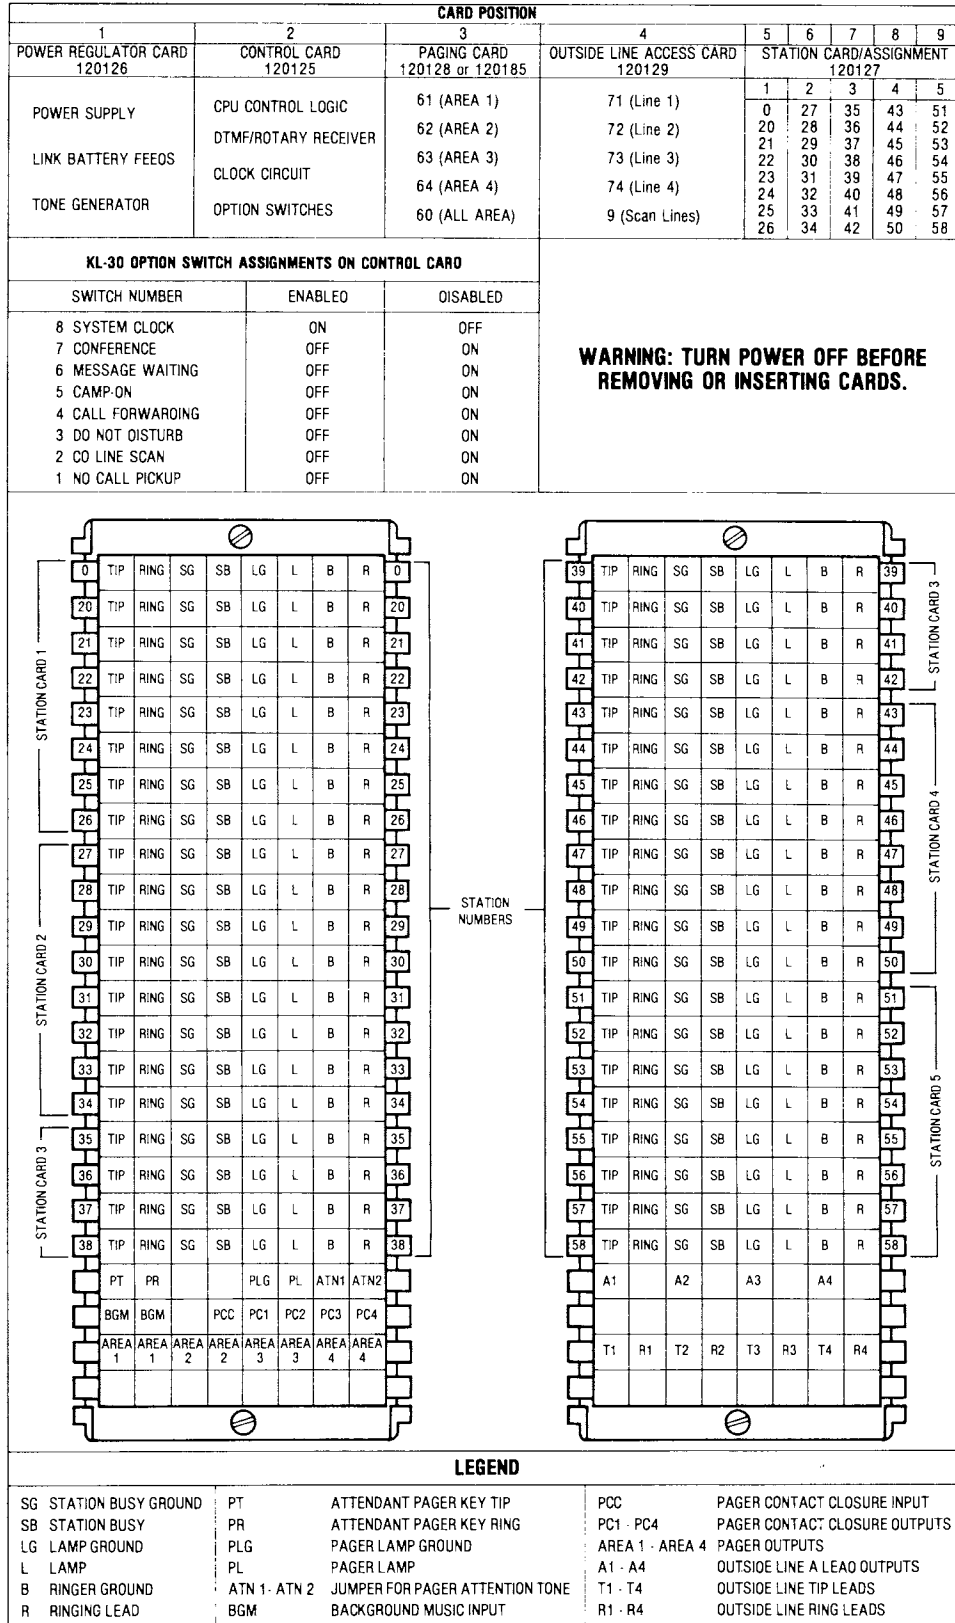

Fig. 4 — Option Switch, Function, Station, and Punch Block Pin Assignment.
4.03 Connect Tip and Ring of outside lines to connecting block terminals T1, R1, T2, R2, T3, R3, T4, and R4. See Figure 4. The Tip (T) terminal of unused outside lines should be connected to B battery.